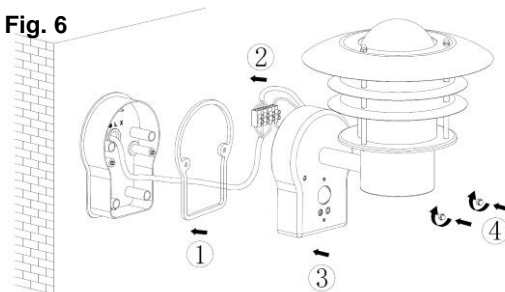

Fig. 6
9. Ensure that the gasket is fitted onto the rim of the back plate and refit the terminal block. Carefully arrange wires into the back plate recess. Align the holes in the mounting plate with the bolts and secure the light fitting refitting the two domed cap nuts (fig. 6).